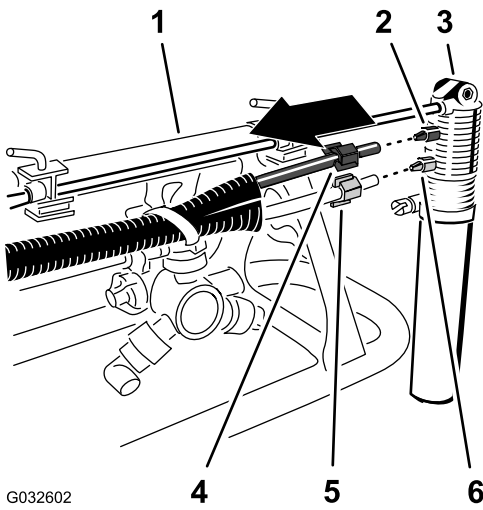

Figure 27
2. At the foam-marker nozzle, loosen the compression nut that secures the blue tube (water) to the blue compression fitting of the foam-marker nozzle (Figure 27).
- Loosen the compression nut that secures the clear tube (air) to the white compression fitting of the foam-marker nozzle of the foam-marker nozzle (Figure 27).
- Remove the compression nuts at the ends of the tubes (Figure 27).